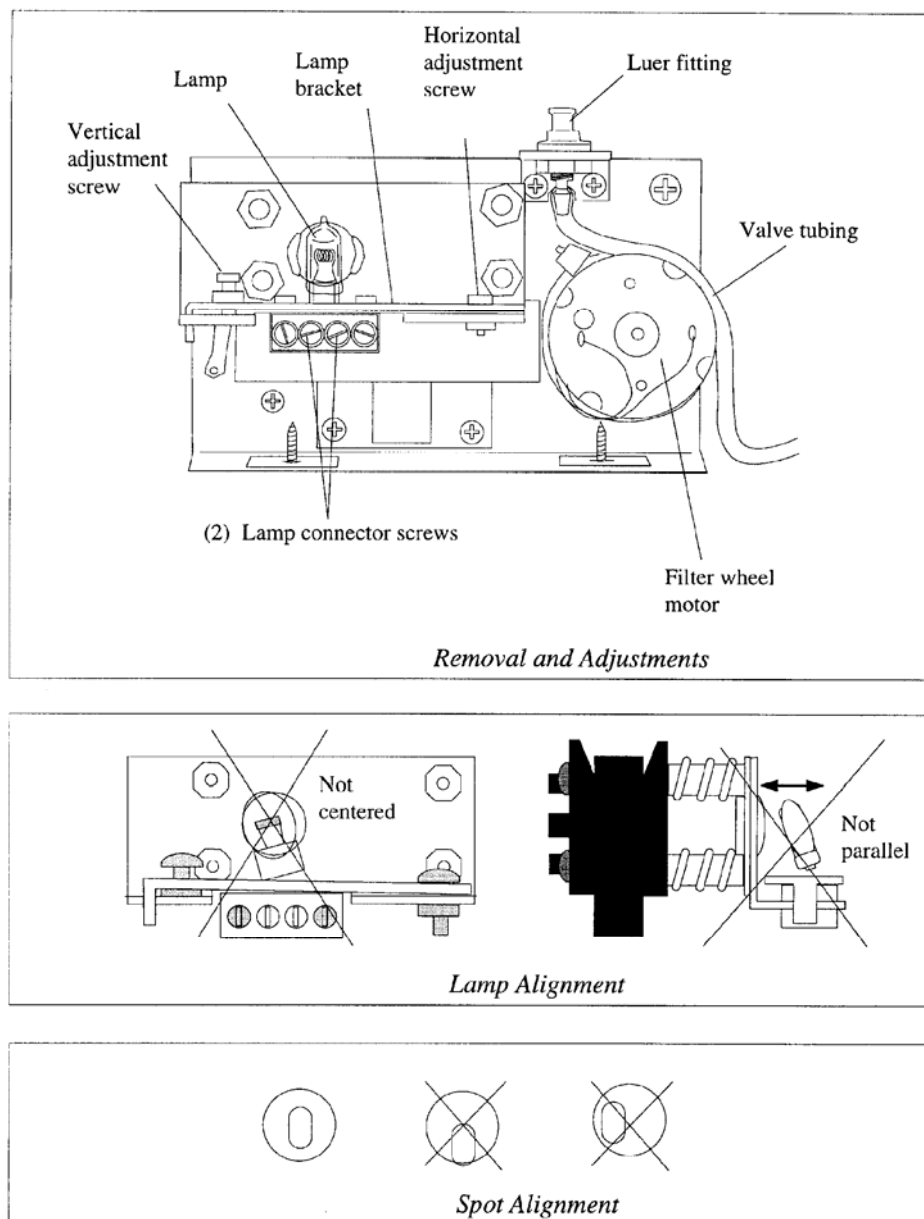

Figure 3 – Lamp Replacement
- Refer to Figure 3, for lamp removal and replacement diagram. The figure shows the right side view of the photometer assembly.
- Refer to Figure 3, for lamp alignment. The lamp filament must be centered on the lens and the lamp body must be parallel with the lens bracket. While holding the lamp in alignment, tighten the lamp connector screws.
- Refer to Figure 3, for spot alignment.